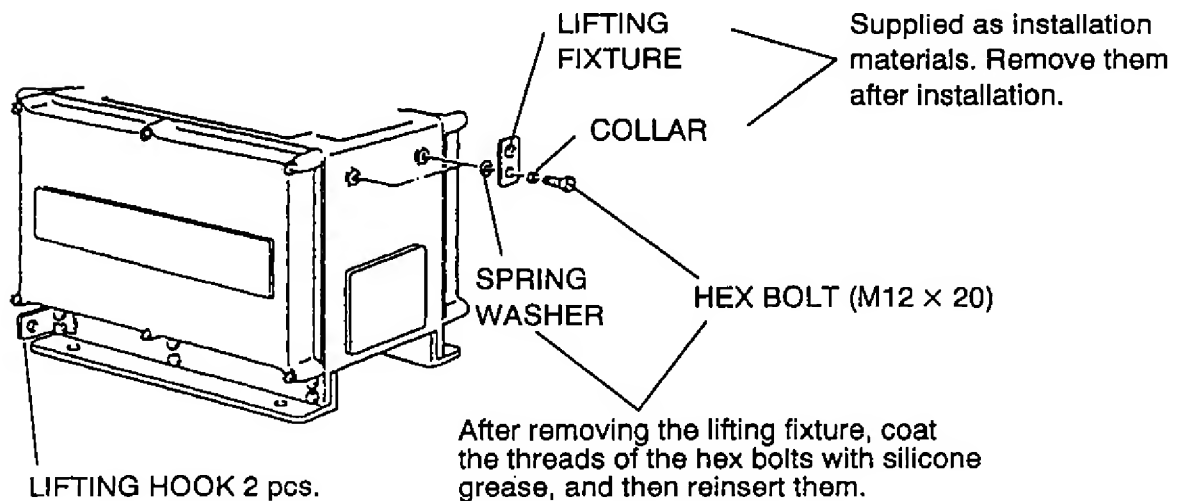

Fig. 1-5
2. Attach the lifting fixtures and collars as shown in Fig. 1-5.